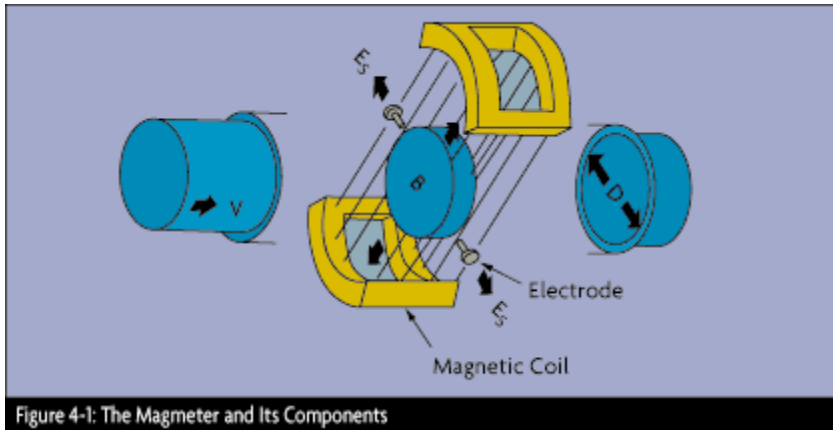

Figure 4-1: The Magmeter and Its Components
Magneters can detect the flow of conductive fluids only. The magnetic flowmeter consists of a non-magnetic pipe lined with an insulating material. A pair of magnetic coils is situated as shown in Figure 4-1, and a pair of electrodes penetrates the pipe and its lining.
The natural resonance frequency of the tube structure is a function of its geometry, materials of construction, and the mass of the tube assembly (mass of the tube plus the mass of the fluid inside the tube). The mass of the tube is fixed. Since mass of the fluid is its density (D) multiplied by its volume (which is also fixed), the frequency of vibration can be related to the density of the process fluid (D). Therefore, the density of the fluid can be determined by measuring the resonant frequency of oscillation of the tubes. (Note that density can be measured at zero flow, as long as the tubes are filled with fluid and vibrating.) can detect the flow of conductive fluids only. The magnetic flowmeter consists of a non-magnetic pipe lined with an insulating material. A pair of magnetic coils is situated as shown in Figure 4-1, and a pair of electrodes penetrates the pipe and its lining.